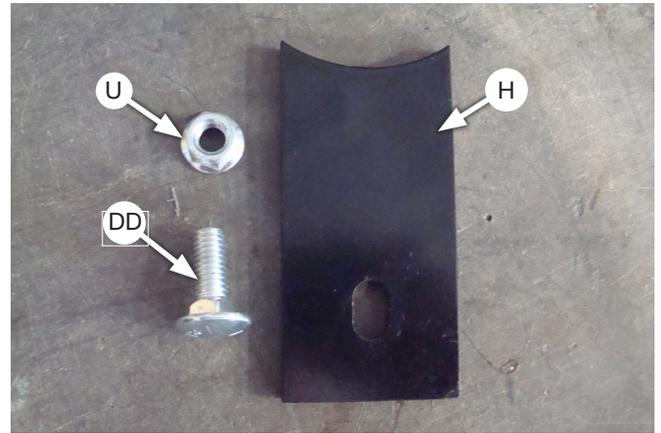
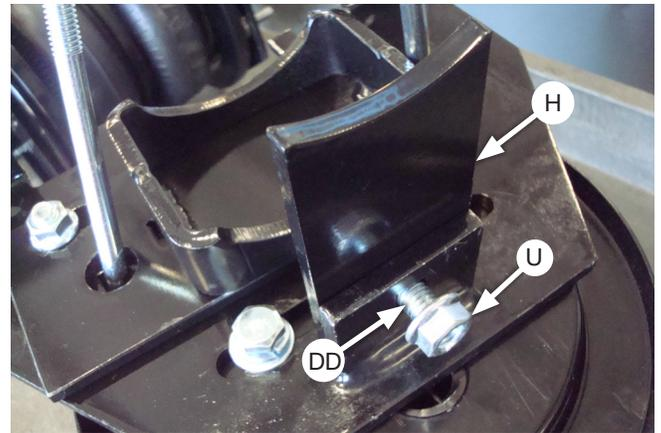

Fig. 15
Fig. 16
- Attach the lower leg adapter (H) to the lower bracket using a 3/8"-16 x 1" carriage bolt (DD) and a 3/8" serrated flange lock nut (U) (Fig. 15). Install as shown in Fig. 16, pushing the adapter against the lower bracket and torquing the hardware to 16 lb.-ft. (14Nm).